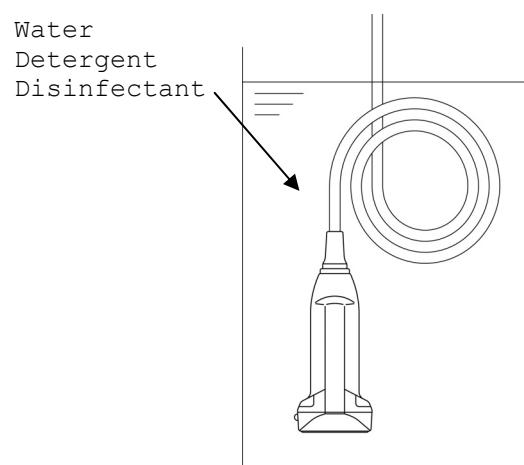

Fig. 4 Immersion of the probe
- 2) Immerse the immersible part of the probe without connector into the diluted detergent solution (see Fig. 4). Wipe the immersible part of the probe under the surface of the detergent solution with a soft cloth to remove all visible soil. Be sure that all grooves of the probe are implemented during the cleaning process.
- 5) Rinse the probe with running tap water for 1 minute. (alternatively: immerse the immersible part of the probe in a tray filled with deionized water/tap water (see Fig. 4) for 5 min.)
- 3) Immerse the immersible part of the probe into the disinfectant (see Fig. 4). Set a clock to insure the recommended contact time which is 5 minutes.
- 4) Rinse the immersible part of the probe with deionized water for 1 minute. (alternatively: immerse the immersible part of the probe in a tray filled with deionized water (see Fig. 4) for 5 min.)